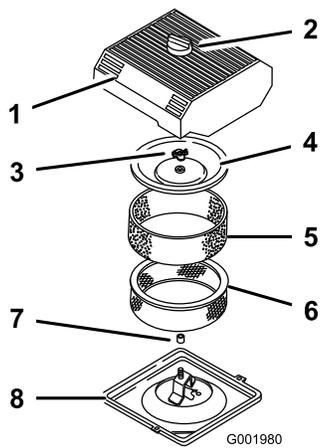

Figure 40
3. Clean around the air cleaner to prevent dirt from getting into the engine and causing damage (Figure 40).
- Loosen the knob on the air-cleaner cover and remove the cover (Figure 40).
- Carefully slide the foam element off the paper element (Figure 40).
- Unscrew the cover nut and remove the cover and paper element (Figure 40).
- Carefully slide the foam element onto the paper air-cleaner element (Figure 40).
- Install the cover nut finger-tight against the cover (Figure 40).
- Install the air-cleaner cover and knob (Figure 40).